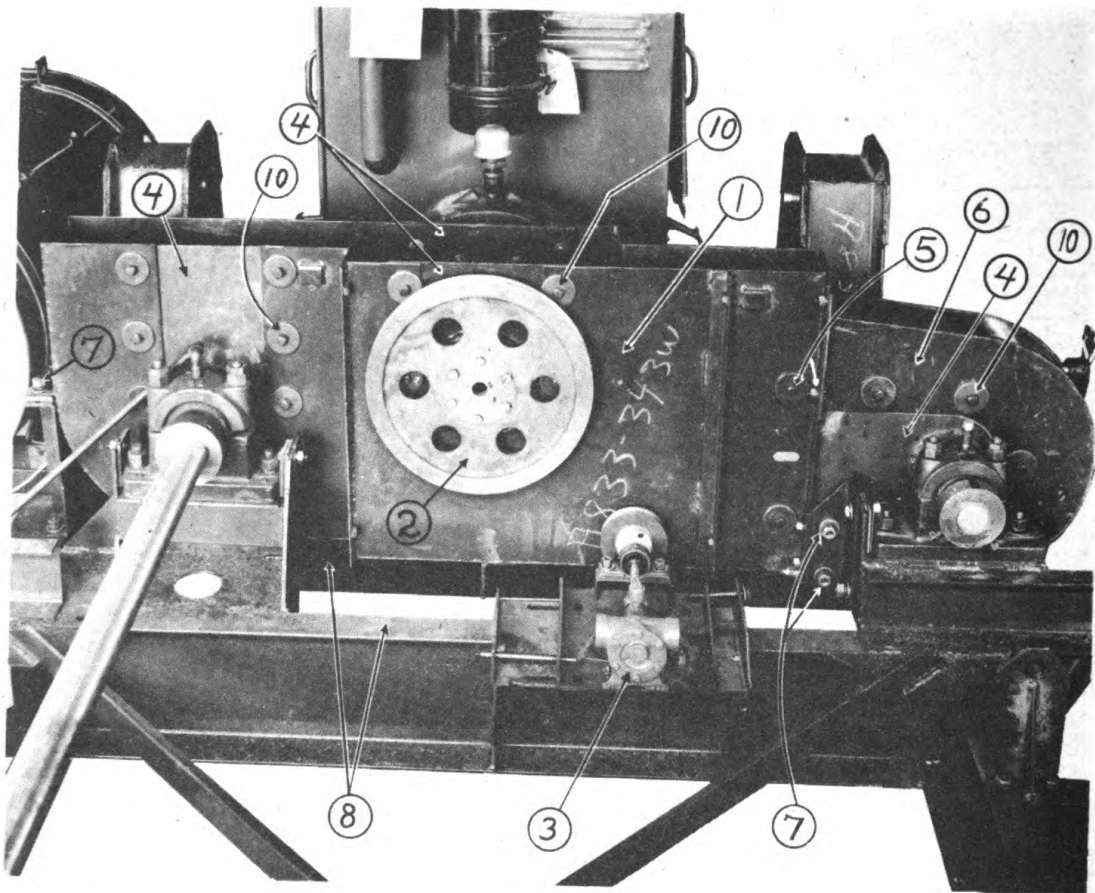

FIGURE 102
1. The oil tight guard (1) Fig. 102 should be removed to facilitate removal of engine. To remove guard proceed as follows: Drain lubricant from oil tight chain guard. Remove section of guard that encloses the pulley (2), which drives burner fuel pump (3). Remove bolts (10), that secure seals (4), to guard. Remove bolts (5), that secure the main section of guard to the guard extension (6), over the cold elevator drive shaft. Remove all guard holddown bolts (7), and lower guard between main frame channels (8).
1. The oil tight guard (1) Fig. 102 should be removed first. To remove guard proceed as follows: Drain lubricant from oil tight chain guard. Remove section of guard that encloses the pulley (2), which drives burner fuel pump (3). Remove bolts (10), that secure seals (4), to guard. Remove bolts (5), that secure the main section of guard to the guard extension (6), over the cold elevator drive shaft. Remove all guard holddown bolts (7), and lower guard between main frame channels (8).